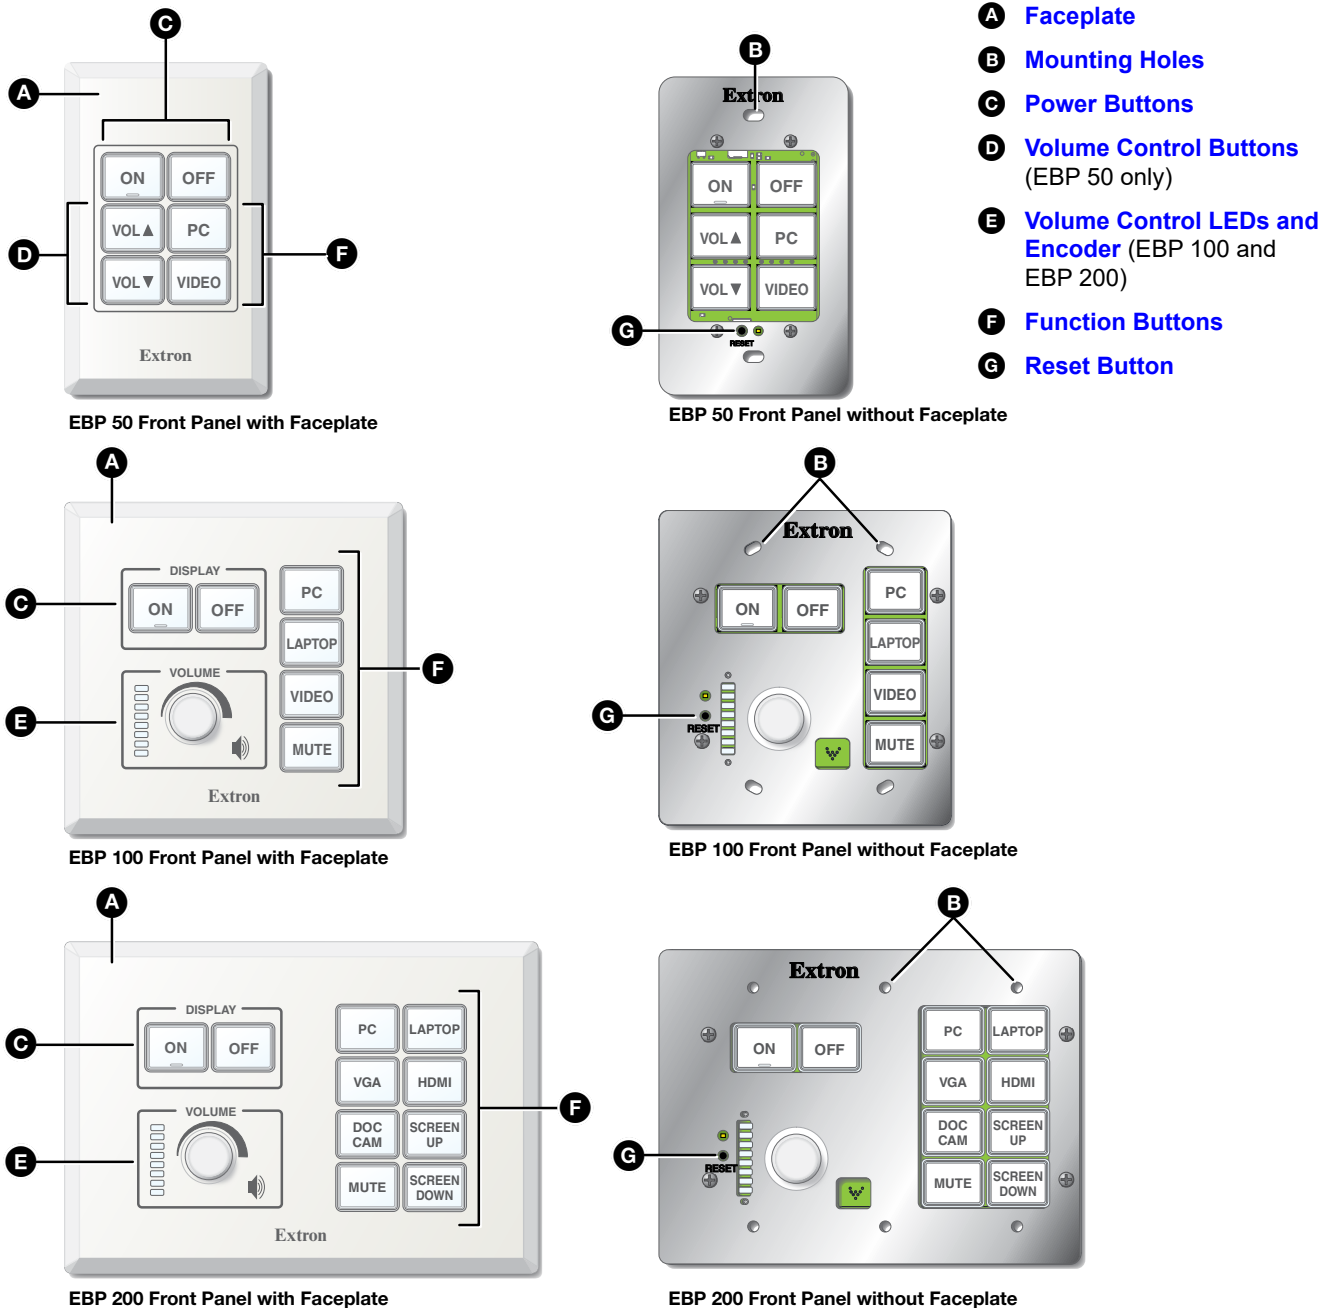

Figure 2. Front Panels With and Without Faceplates
- A Faceplate** (see figure 2 on page 2)